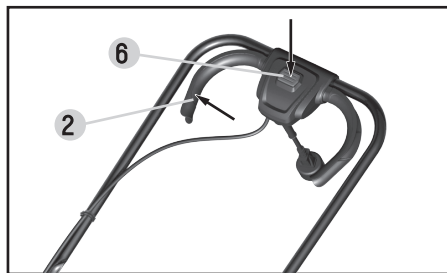

Fig. 10
- 1 Connect the mower to your power supply socket. Ensure the cable or extension cable (if you are using one) is hooked through the cable strain relief hook. (Fig 10)